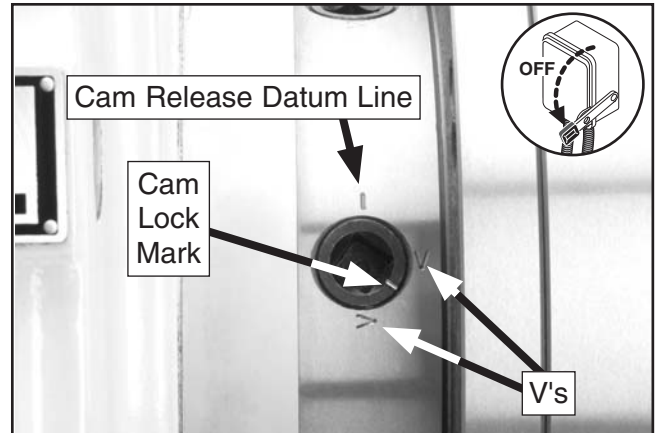

Figure 18. Cam and lock marks.
7. Turn a camlock with the chuck key until the cam line falls between the "V" marks **Figure 18**.
Note: If any of the cam lock marks (**Figure 18**) do not fall between the "V" marks when the cam lock is tight, you must adjust the offending camlock stud as discussed in **Camlock Stud Adjustment on Page 26**.